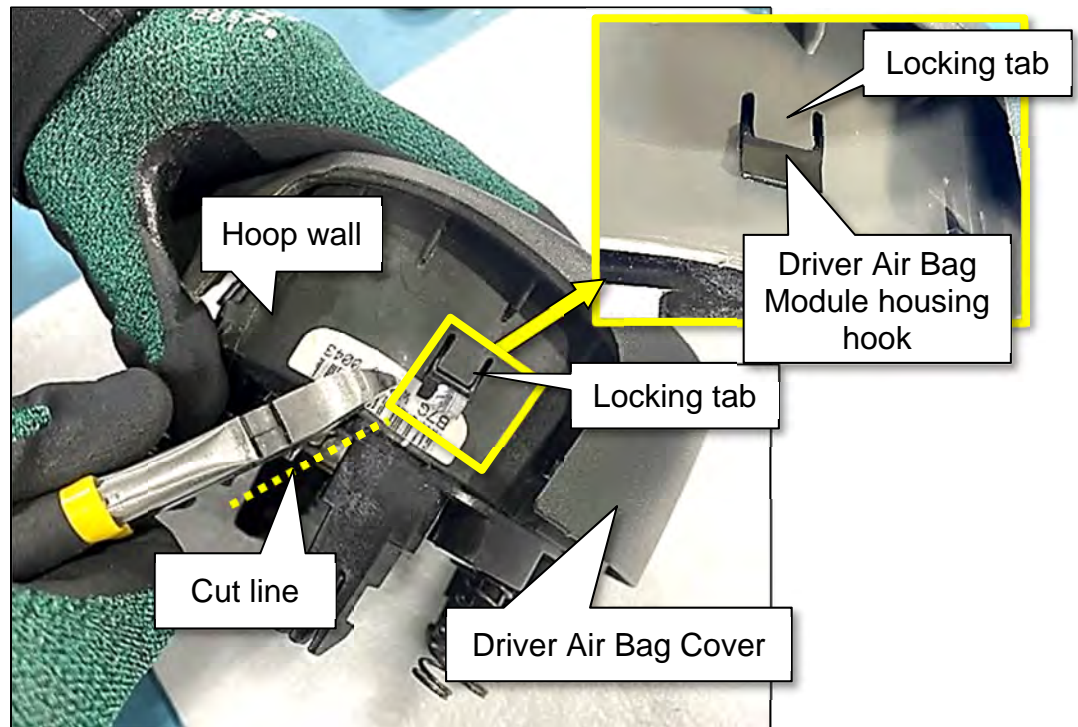

Figure 7
- Using a pair of suitable side cutters, cut the plastic hoop wall of the Driver Air Bag Cover diagonally to the bottom of the Driver Air Bag Module housing hook, as shown in Figure 7.